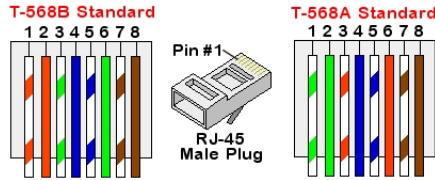

Figure 27: Standard cable wiring
- c. Insert the eight wires into an RJ45 connector, as described in *Figure 27*
8. For the switch/router side, use a pre-crimped cable or use a crimper to prepare an RJ45 communication connector: Insert the eight wires into the RJ45 connector in the same order as above (*Figure 27*).